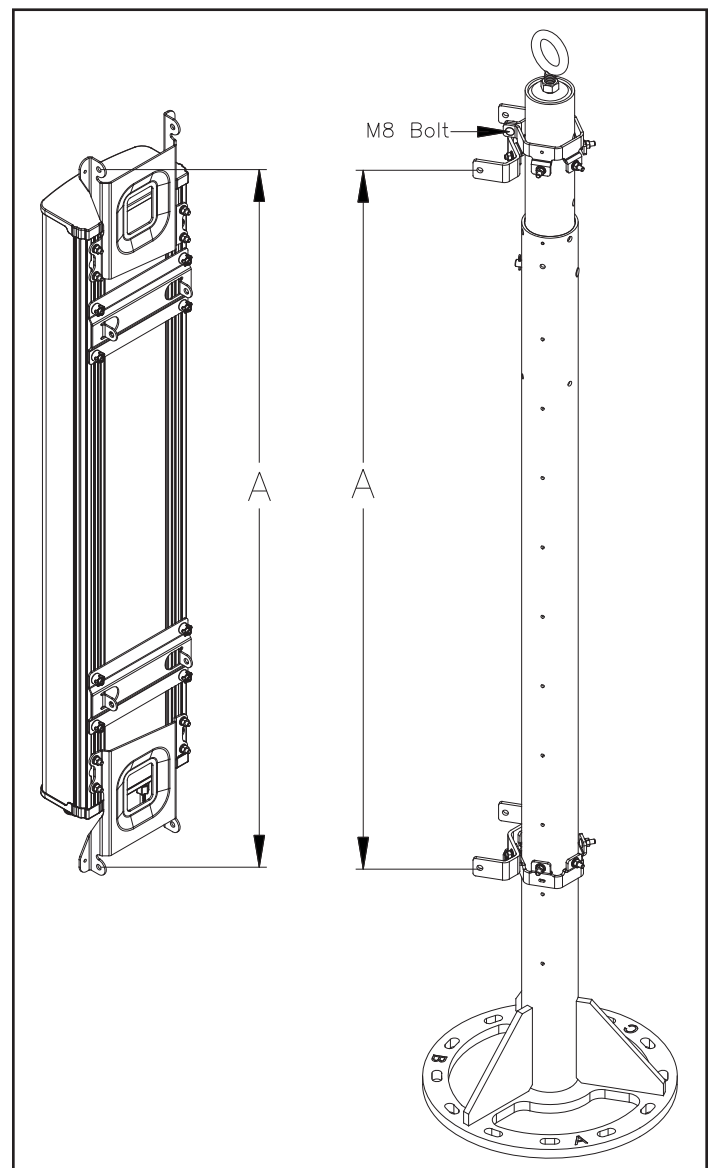

Figure 11. Aligning Mounting Rings on Universal Tree Stand to Mounting Holes on Antenna Mounting Brackets.
7. Measure the center-to-center distance (noted as distance A in Figure 11) for the antenna mounting bracket holes and the pole bracket holes (Figure 11).
8. If a mounting ring needs to be repositioned on the stand in order to line up the mounting holes with the antenna, loosen the M8 x 1.25 x 35mm carriage bolt on the mounting ring and slide the ring to its new position. Tighten the carriage bolt to secure after adjustment is made (Figure 11).